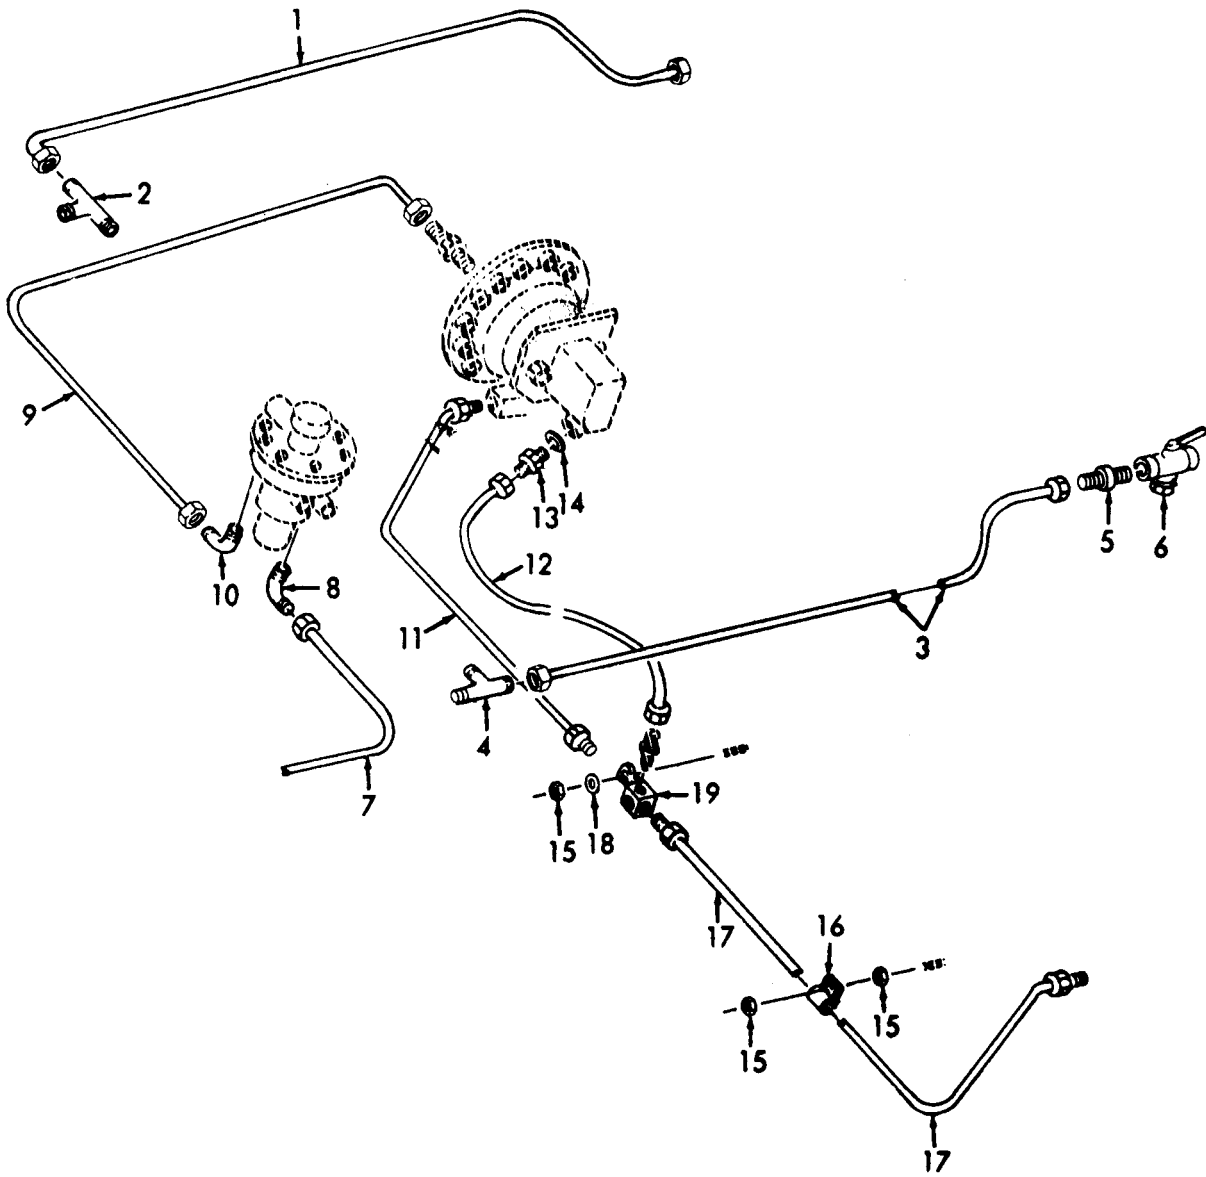

Figure 19-6. Rear Air Brake Lines.
- a. Removal. Remove the airbrake chamber as illustrated in figures 19-6 and 19-7.
- (1) Clean with cleaning solvent and dry thoroughly.
- (2) Inspect for defects and replace defective or missing parts as necessary.
- c. Installation. Install the airbrake chamber as illustrated in figures 19-6 and 19-7.
## LEGEND FOR FIGURE 19-6: